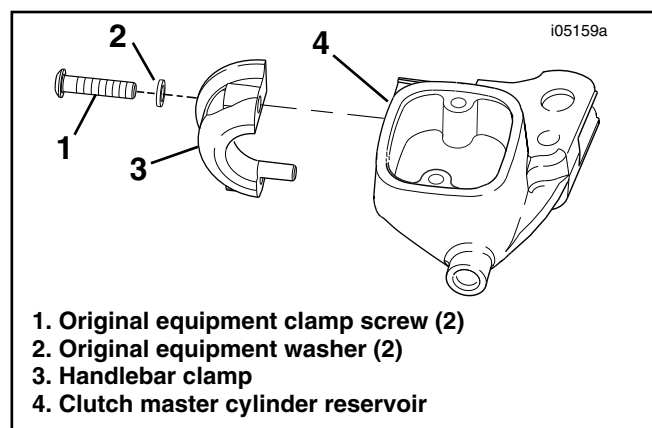

Figure 5. New Clutch Master Cylinder Reservoir
1. See Figure 5. Obtain the following items:
- The clutch master cylinder reservoir (4) from the kit
- The two clamp screws (1) and flat washers (2) saved during removal of the original clutch lever
- **If installing Kit 45383-03 (Chrome)**, obtain the handlebar clamp (3) from the kit